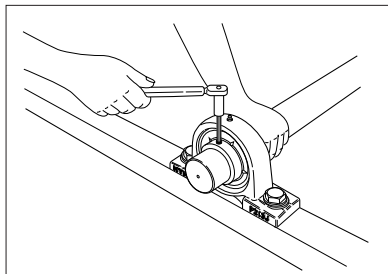

Fig.8.6
- 3) Securely fit an Allen key wrench to the hexagonal socket of a set screw. Then, tighten the two set screws equally with a tightening torque that can be found in **Table 8.1** (**Fig.8.6**).